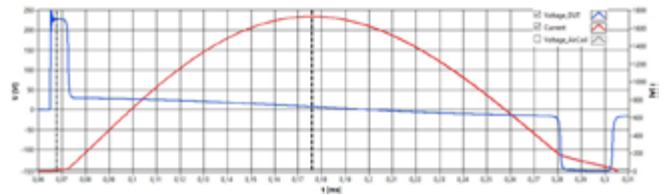

Figure 5: Estimation of leakage inductance for saturation interval, half sinusoidal time slot
The saturation / leakage inductance is calculated as half sinusoidal curve Figure 5 [7]
- Leakage inductance for the saturation phase, half sinusoidal time slot Figure 5